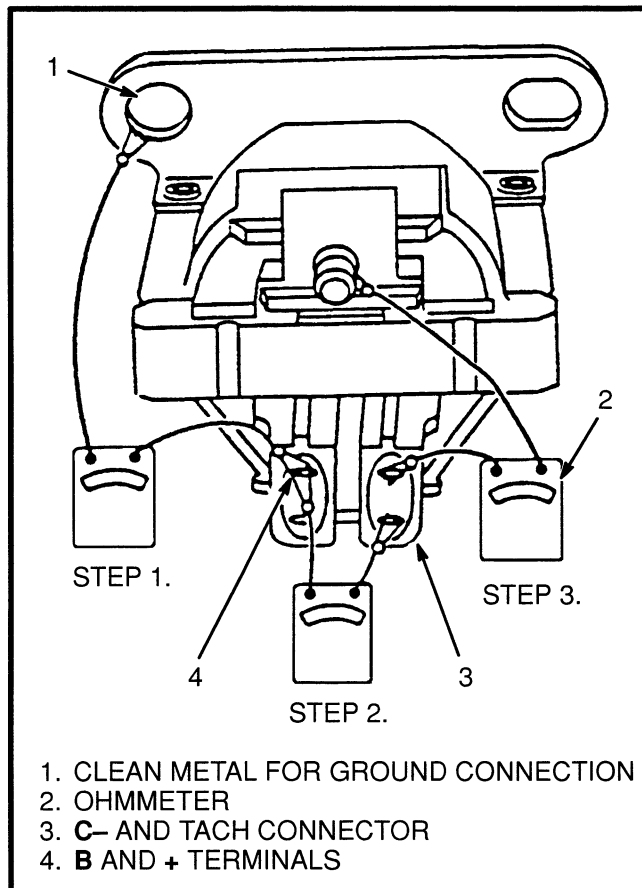

FIGURE 22. IGNITION COIL
4. Set the ohmmeter on one of the higher scales. Connect the ohmmeter as shown in step 1 of FIGURE 22. If the
5. Set the ohmmeter on one of the low scales. Connect the ohmmeter as shown in step 2 of FIGURE 22. If the ohmmeter indication is greater than zero to one ohm, install a new ignition coil.
6. Set the ohmmeter on one of the middle scales. Connect the ohmmeter as shown in step 3 of FIGURE 22. If the ohmmeter indication is infinity (open circuit), install a new ignition coil.